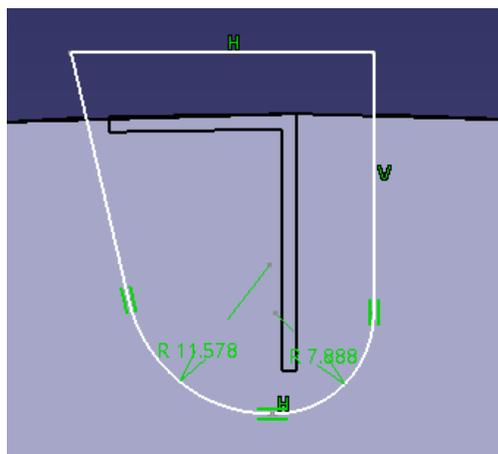

Fig. 11 Sketch for pocket
- Now make sketch as shown in fig.11 and using pocket command create pocket (upto last).